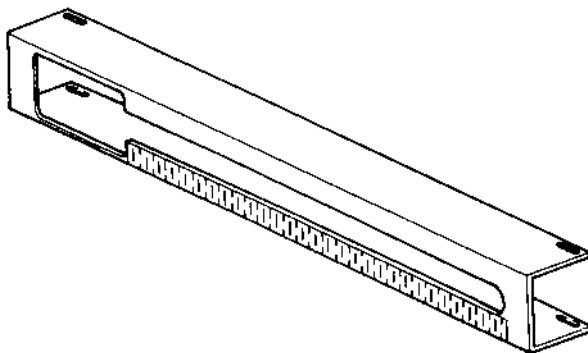

Fig. C.1 : Mounting rail
- b Slide the securing straps through the slots on both ends of each mounting rail (see fig. C.1).